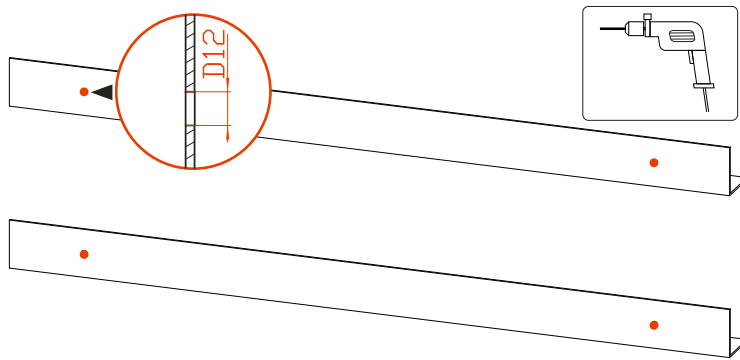

Figure3-14 Drilling holes
- Step 3 Use the electric drill to drill holes on the bracket according to the marked position. The drilling size is $\Phi 12$ mm, as shown in Figure 3-14.